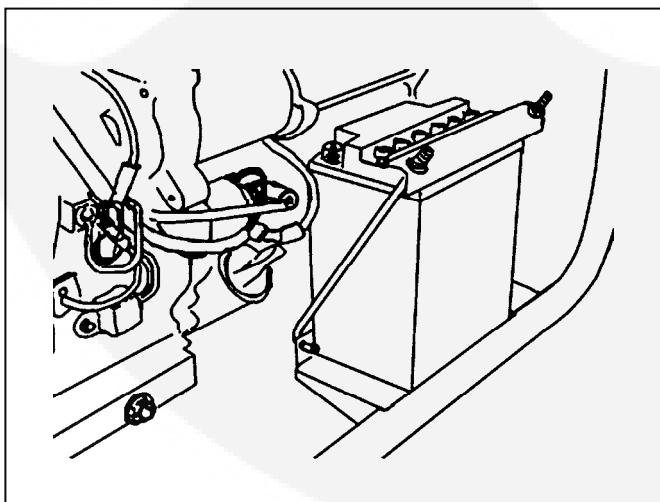

FIGURE 10. BATTERY MOUNTING
3. Make sure the battery is securely clamped in place in its mounting bracket (Figure 10).